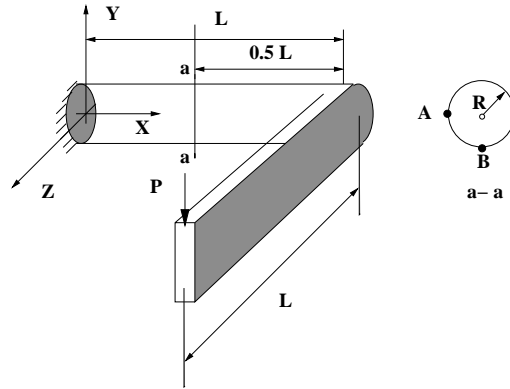

Figure 7: Problem 8
A L-shaped beam is made of a rectangular section and a solid cylinder section with radius $R = 0.1m$. The span of the both section is $L = 2.0 m$. There is a concentrated load, $P = 300N$, acting on the free-end of the rectangular (as shown in Figure 7.). (1) Draw the moment diagram, shear diagram, and internal torque diagram; (2) Find the normal stress σ_x , shear stresses τ_{xy} and